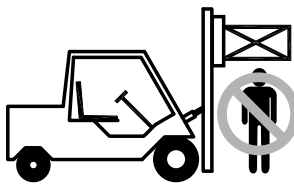

Figure 2-2,
- Never allow anyone under a load or under the carriage. (Figure 2-2)